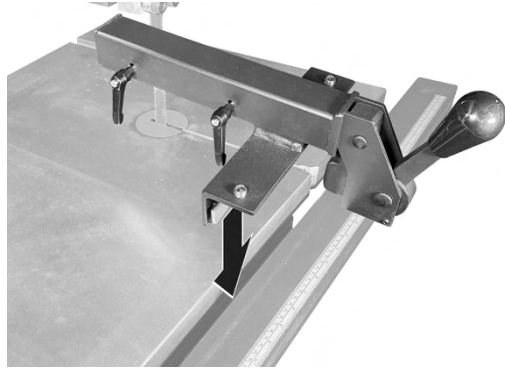
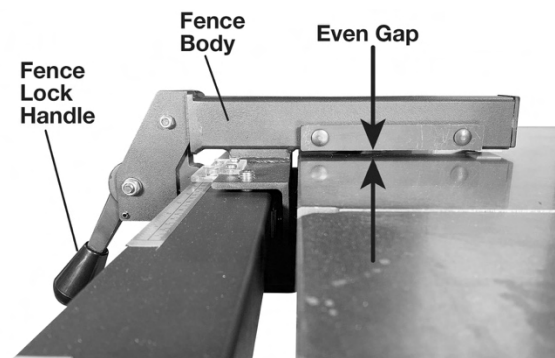

Figure 5-20
Figure 5-21
3. Place fence body onto guide rail (see Figure 5-20). Push down fence lock handle to lock fence body to rail. There should be an even gap between table surface and the length of fence body (see Figure 5-21).